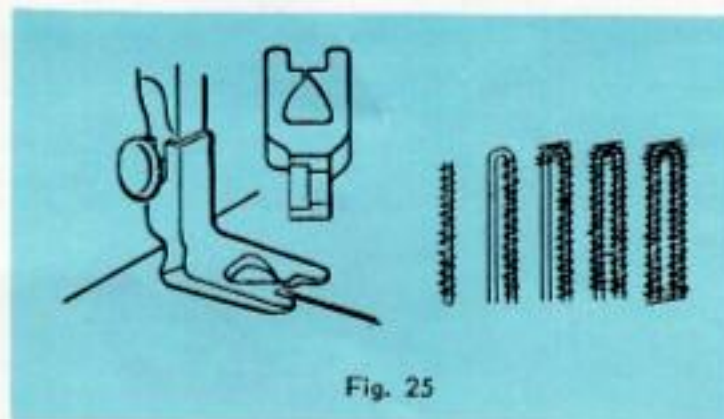

Fig. 25
2. Raise presser foot and turn balance wheel toward you to bring needle to its highest position. Remove regular presser foot from presser bar by loosening thumb screw, instead attach special button-hole foot shown on Fig. 25. Tighten thumb screw.